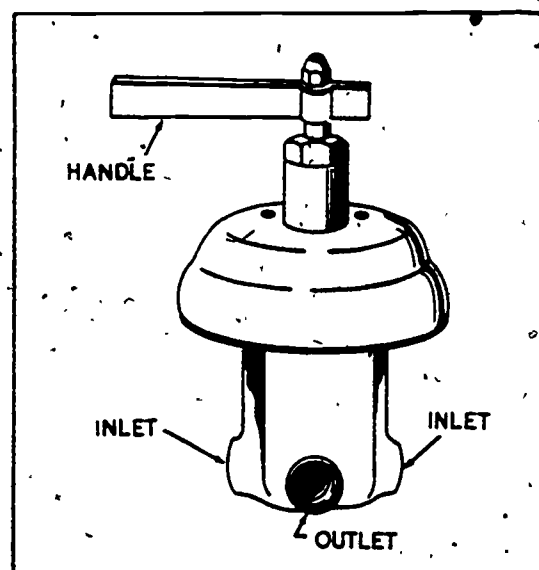

Figure 2-24. Pressure-controlled mixing valve.
b. Pressure mixing valve. The pressure-controlled mixing valve, like the one shown in figure 2-24, consists of a brass mixing chamber which contains a sliding piston. The piston is provided with jets to allow hot and cold water to pass through them and mix when the handle of the valve is operated. The setting of the handle controls the water temperature by establishing the mixing ratio. A change in pressure on one side of the piston causes the piston to move. This increases the flow from the low-pressure supply to maintain a nearly constant pressure.